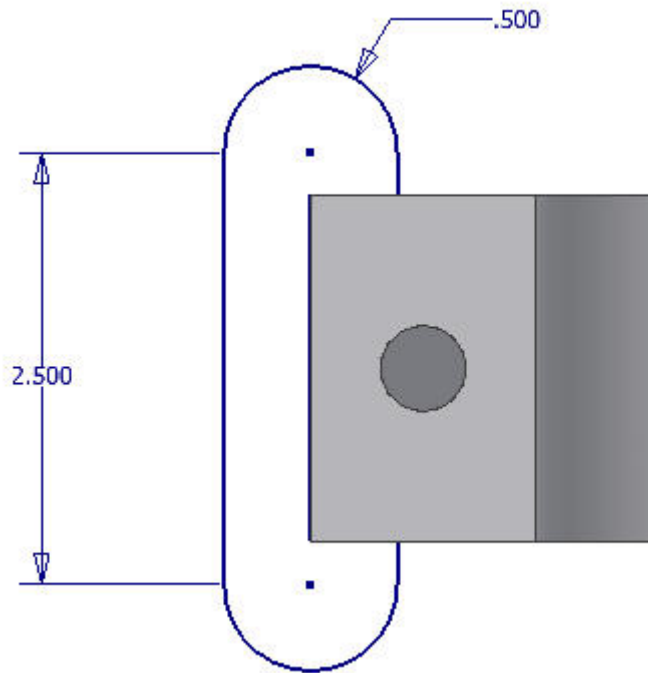

Figure 24
19. Create the sketch, as shown in figure 24, which will be used as the path for the sweep. Make sure that the center points of the arcs are in line with the left edge and equally spaced from the top and bottom edges of the part. Use the **Coincident** and **Equal** constraints to perform this task.